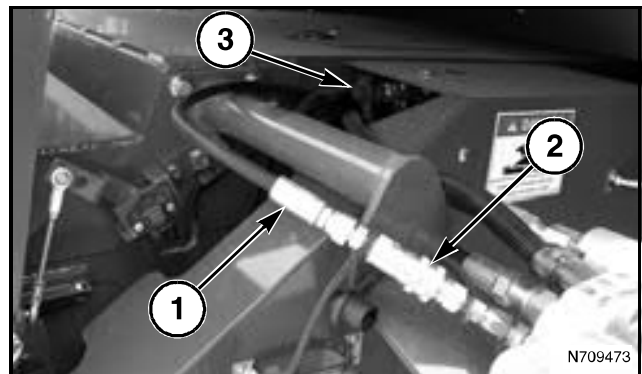

FIG. 20
FIG. 20: Transverse Machine - If a corn head has been attached, install the reel lift hose (1) onto the reel lift fitting (2) on the single point connector. Make sure the dust cap (3) is installed on the variable speed fitting.